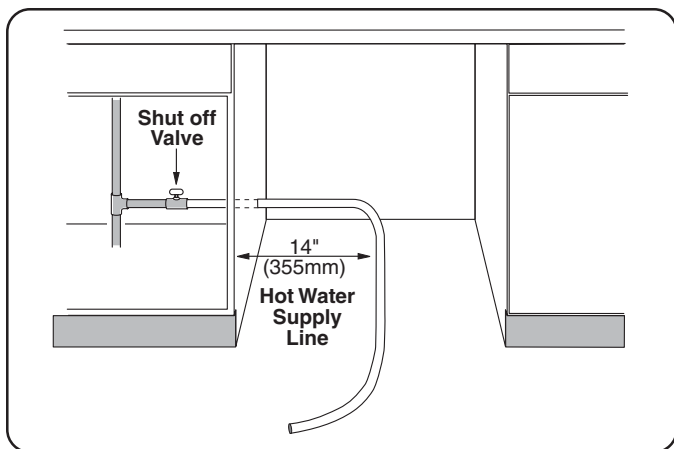

Figure 6
Install an easily accessible shut-off valve (not supplied) in the hot water supply line, as shown in **Figure 6**. All solder connections must be made before the water line is connected to the dishwasher's water inlet valve. Water may also be supplied to the dishwasher by using a stainless steel braided hose approved for dishwasher use. Check with your local plumbing supply sources for the proper hose and 90° elbow fitting.
**NOTE:** Regardless of where the hot water supply line enters the enclosure, position the line 14" (355mm) from the enclosure's left side, as shown in **Figure 6**.